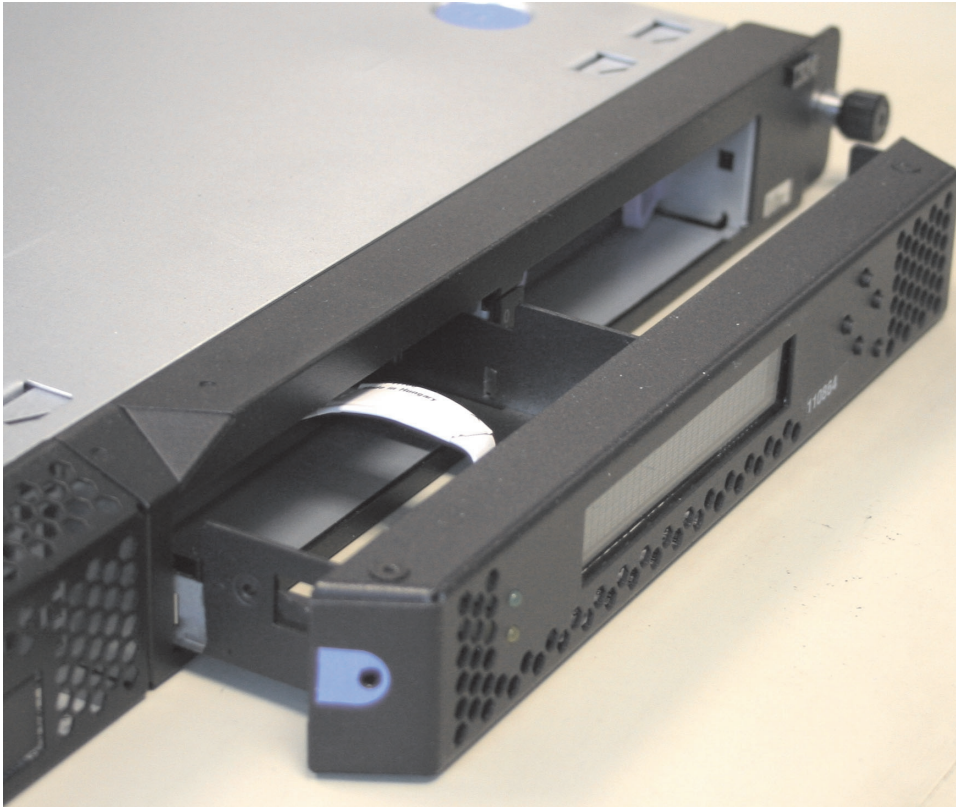

Figure 86. SAN Volume Controller 2145-8A4 service controller
1. Gently push the service controller (shown in Figure 86) into the frame until the rear connectors are fully seated and the service controller front metal work is up to the frame.